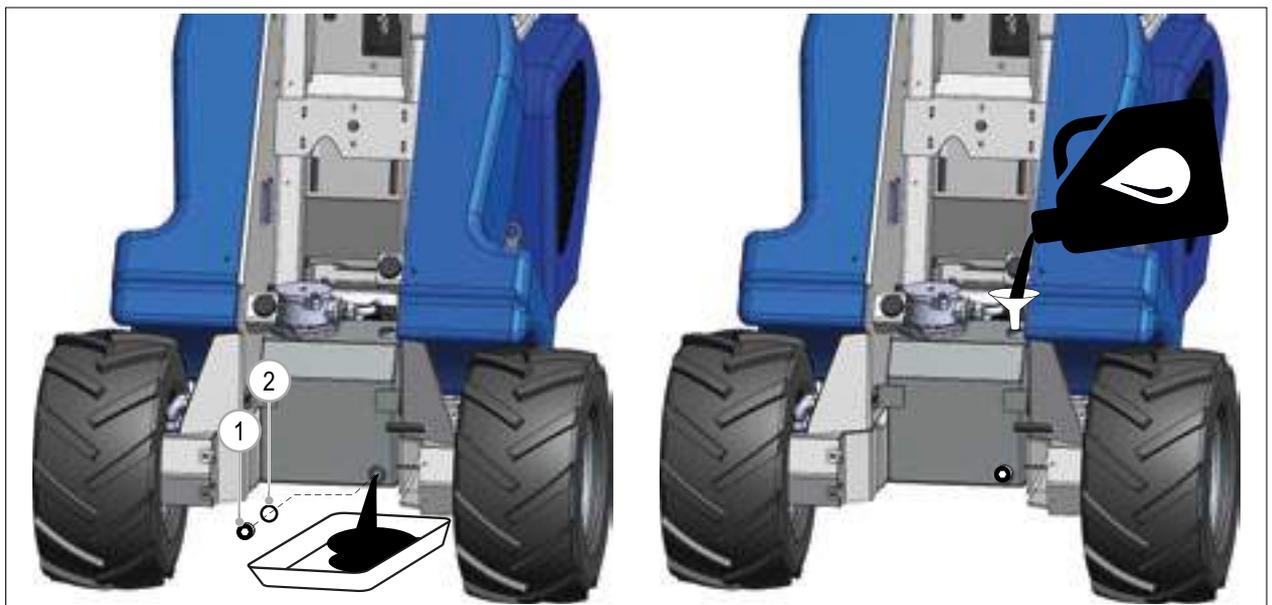

FIG. 23
- 4) Remove the hydraulic tank drain plug (**FIG. 23 - Ref. 1**), located near the left front wheel, and drain all hydraulic oil from the machine into the container.
- 5) When all of the hydraulic fluid has drained out of the tank, reinstall and secure the drain plug. Make sure to inspect the drain plug O-ring (**FIG. 23 - Ref. 2**) for signs of wear or damage. Replace the O-ring if any signs of damage are noted.